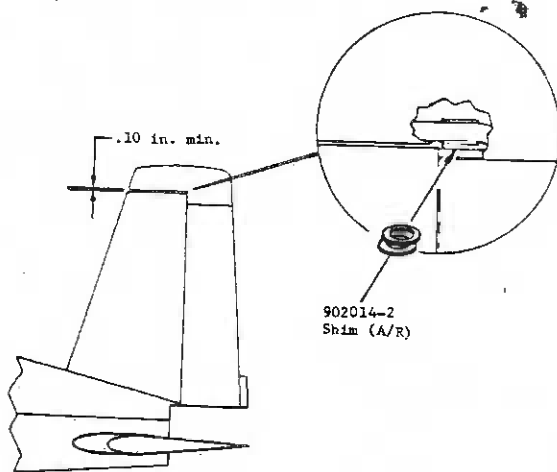

Figure 2. Rudder Tip-Fin Clearance.
4. Prior to installation of the rudder bellcrank, check the clearance between the rudder tip and fin. Minimum clearance is 0.10 inch as shown on figure 2. If clearance is less than 0.10 inch, install shims part number 902014-2 as required. Lubricate the rudder bearings, as required, with Aeroshell grease #6 or equivalent per MIL-G-7711.